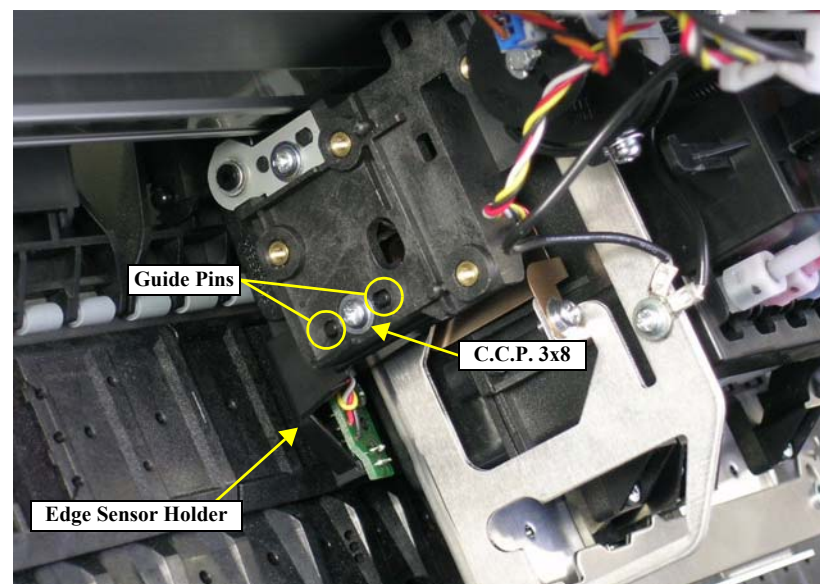

Figure 4-101. Removing the Edge Sensor Holder
4. Remove the screw that secures the Edge Sensor Holder and remove it. *See Figure 4-101.*
Set the two guide pins of the Edge Sensor Holder in the positioning holes. *See Figure 4-101.*